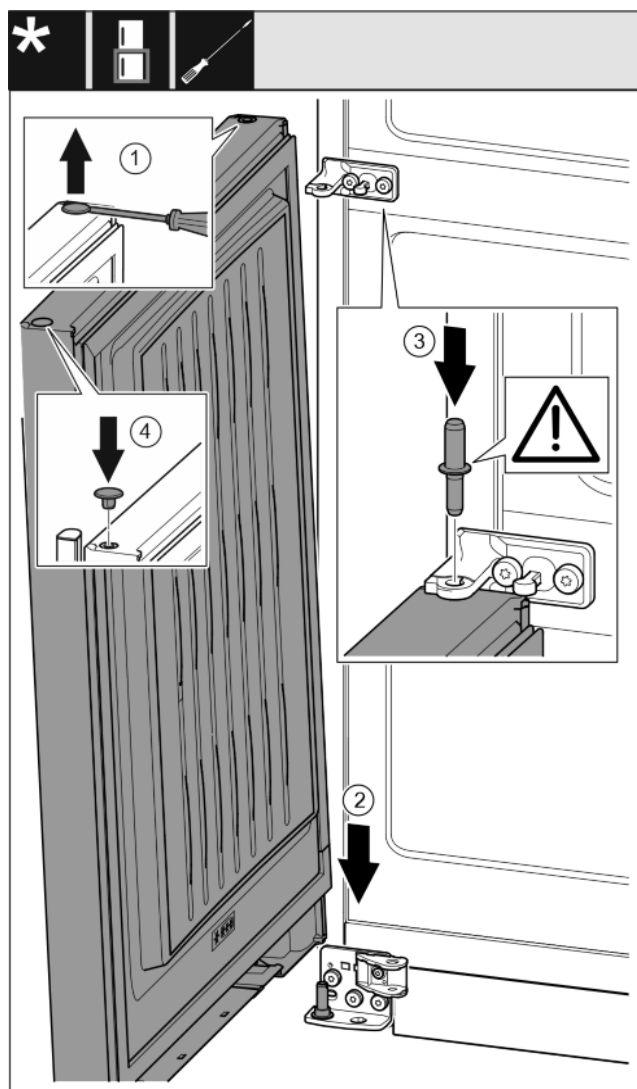

Fig. 32
- Carefully lift up the plugs with a slotted screwdriver and pull them out. Fig. 32 (1)
- Place the door onto the lower bearing pins from above. Fig. 32 (2)
- Insert the centre bearing pin through the centre bearing bracket into the lower door. Make sure that the latching lug is pointing to the rear. Fig. 32 (3)
- Insert the plugs again on the other side of the door. Fig. 32 (4)